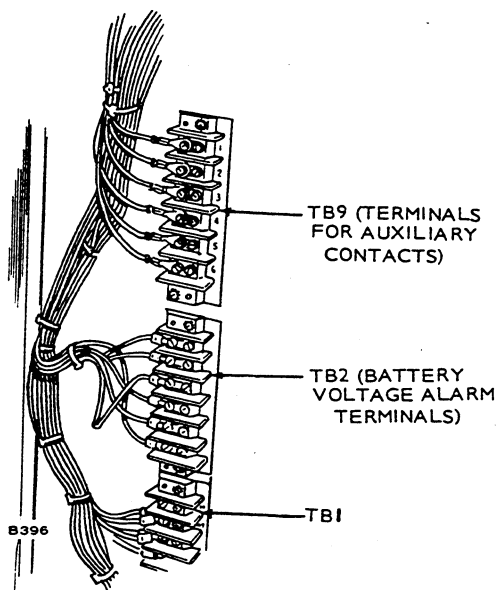

FIGURE 7. LOCATION OF TERMINAL BLOCKS
11. **Battery Voltage Alarm Circuit (if equipped):** For automatic transfer switches with a high battery voltage (HI BAT VOLT) and low battery voltage (LO BAT VOLT) lamp on the meter-lamp panel, there is a six-place terminal block TB2 for external circuit connections. The terminal block is located just above the TB1 terminal block used for remote connections (Figure 7). Connect the wire leads from an external signal or alarm to terminal block TB2 as follows:
12. **Auxiliary Contacts (if equipped):** For a transfer switch with auxiliary contacts on line and generator side, there is a six-place terminal block TB9 for the external alarms or control circuitry. TB9 is located above terminal block TB1 for remote connections and TB2 for the battery voltage sensor connections (Figure 7), if used (TB9 located on rear panel of control cabinet for open-construction models). Ratings for the contacts are 6 amperes at 120 volts, 3 amperes at 240 volts, and 1-1/2 amperes at 600 volts.